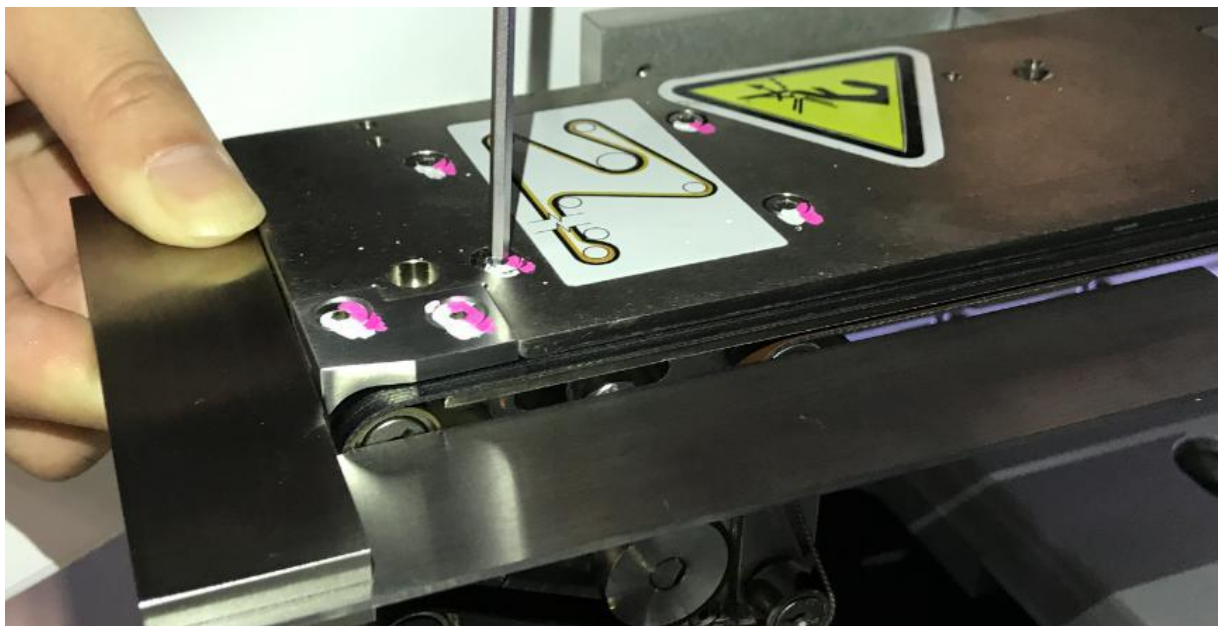

Figure 16 Fix Rail Mount Pulley Alignment
- b) Place L-ruler & Align Mount Pulley assembly as below Figure 16. Align Mount Pulley perpendicular with Fix Rail. Next, Tighten 4 x Screws